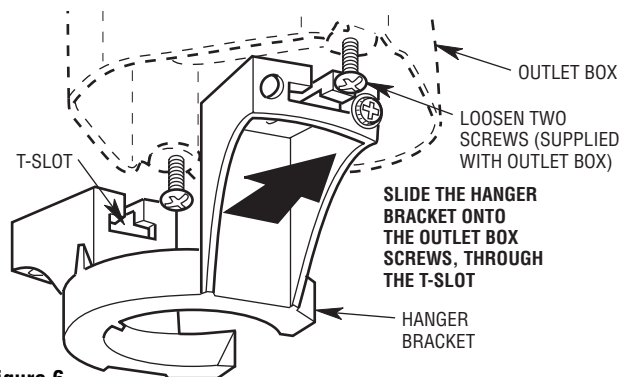

Figure 6
1. Unscrew (but do not remove) the two mounting screws in the outlet box (Figure 6). Position the hanger bracket on the outlet box so that the T-slots in the hanger bracket are aligned with the outlet box screws.